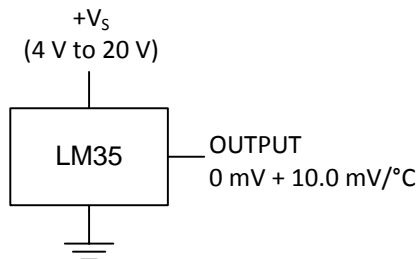

Figure 14. Basic Centigrade Temperature Sensor (2 °C to 150 °C)
Unless otherwise noted, these specifications apply: $-55^{\circ}\text{C} \leq T_J \leq 150^{\circ}\text{C}$ for the LM35 and LM35A; $-40^{\circ}\text{C} \leq T_J \leq 110^{\circ}\text{C}$ for the LM35C and LM35CA; and $0^{\circ}\text{C} \leq T_J \leq 100^{\circ}\text{C}$ for the LM35D. $V_S = 5\text{ Vdc}$ and $I_{\text{LOAD}} = 50\text{ }\mu\text{A}$, in the circuit of Full-Range Centigrade Temperature Sensor. These specifications also apply from 2°C to T_{MAX} in the circuit of Figure 14.
| Minimum temperature for rate accuracy | In circuit of Figure 14 , I _L = 0 | | 1.5 | | 1.5 | | | °C |
(6) Quiescent current is defined in the circuit of Figure 14.